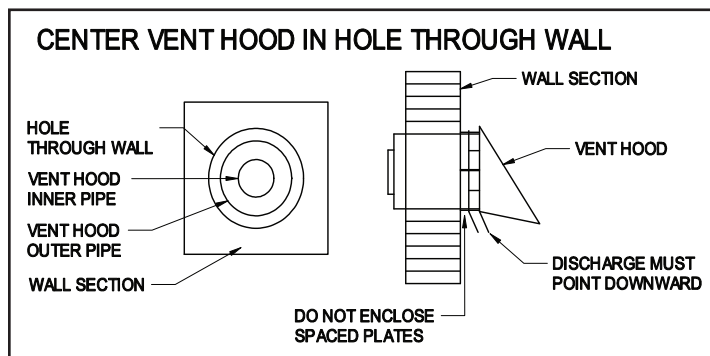

Figure 4
1. Use the inside wall plate as a template to mark the hole location. Cut a hole 1" larger than the marked hole to facilitate easy installation (See Figure 4)